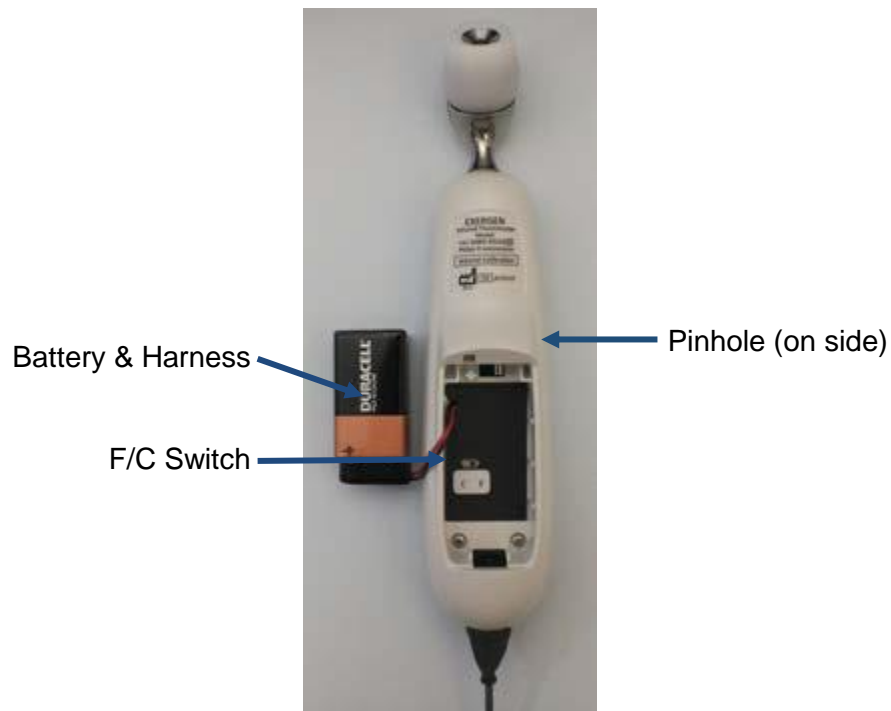

Figure 18: F/C Switch
- 1) Insert a pointed object (e.g., the end of straightened paperclip) into the hole on the right rear of the temp scanner (looking at the back of the temp scanner). Refer to Figure 18.
Follow this procedure to change the cable (Zoe Medical PN 01-02-0849) connected to the Exergen scanner (Refer to Figure 18 below)